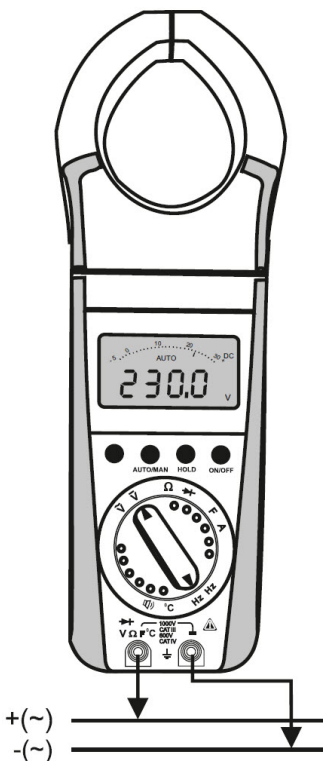

Fig. 1 Voltage measurement on electrical systems up to 1000 V
According to the voltage to be measured, set the function selector switch (6) to $V\sim$ or $V\text{---}$. Connect the test leads as shown in figure 1. The " $\perp$ " socket should be connected to the lowest potential ground available.
- Set the function selector switch (6) to V~, V—
- Connections are made the same way as voltage measurement in figure 1.
- Briefly press the yellow multi-function pushbutton (5). The multi meter switches to frequency measurement. The frequency is displayed on the LCD.
- Set the function selector switch (6) to V~ or V
- Connections are made as shown in figure 1. Briefly press the yellow multifunction pushbutton (5) twice. The meter switches to duty cycle measurement. The duty cycle that is the percentage pulse duration of a signal is displayed on the LCD in %.